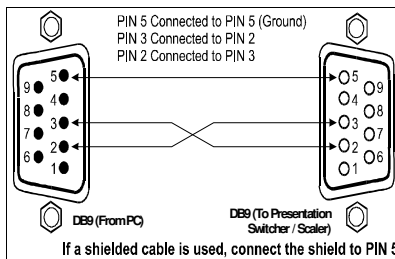

Figure 9: Connecting the PC
- Connect the RS-232 DB9 port on your PC to the RS-232 DB9 rear panel port on the **VP-727T** unit, forming a cross-connection¹, as Figure 9 illustrates